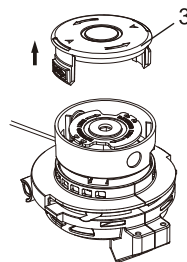

Fig. 13
2. While pressing both spool locking buttons, pull the spool cap (3) out of the spool housing (Fig. 13).